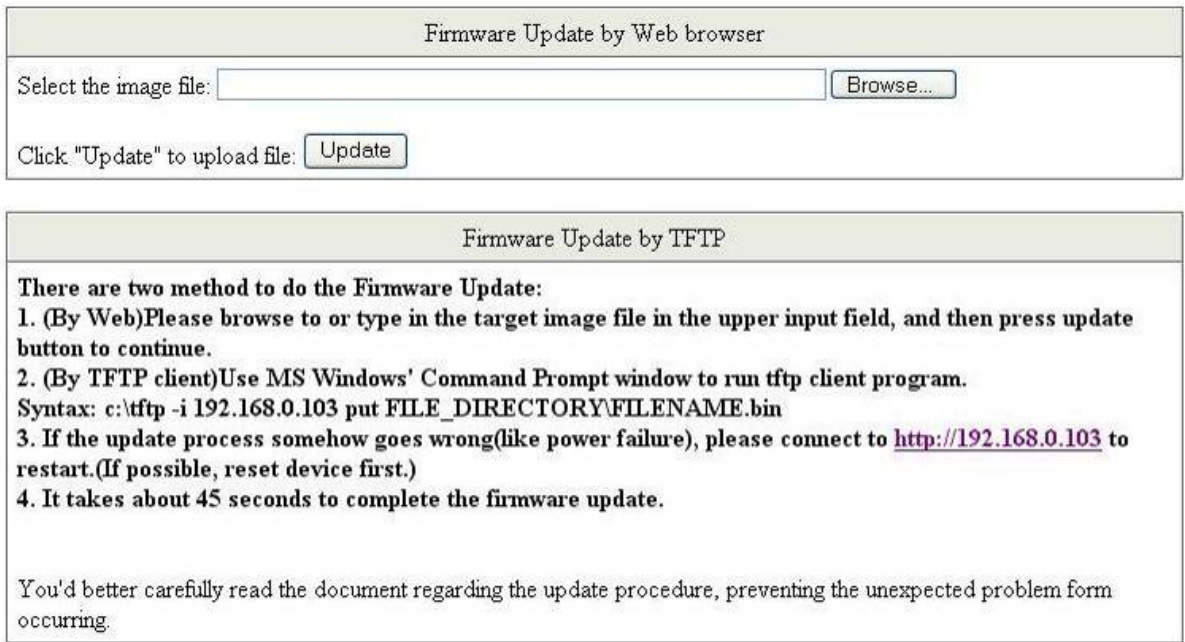

Figure 4-7 Firmware Upgrade screen
3. Then the "Firmware Upgrade Mode" displayed as in Figure 4-7.